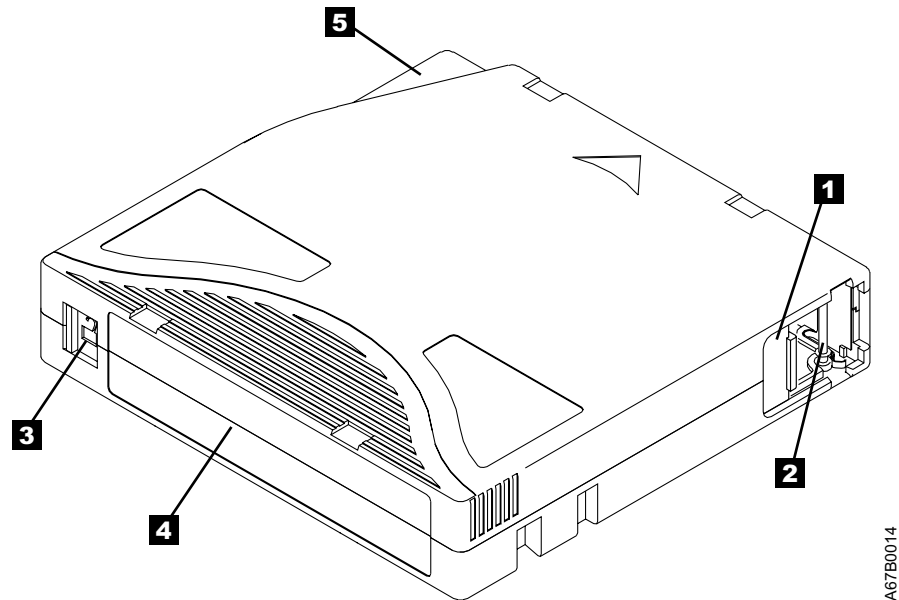

Figure 7. The IBM LTO Ultrium Data Cartridge
Figure 7 shows the IBM LTO Ultrium Data Cartridge and its components.
The cartridge door (**1** in Figure 7 on page 23) protects the tape from contamination when the cartridge is out of the drive. Behind the door, the tape is attached to a leader pin **2**. When you insert the cartridge into the drive, a threading mechanism pulls the pin (and tape) out of the cartridge, across the drive head, and onto a non-removable takeup reel. The head can then read or write data from or to the tape.
- Position the label within the recessed label area (see **4** in Figure 7 on page 23).